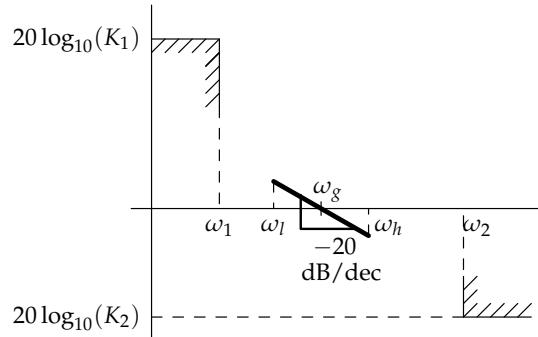

Figure 2: Parameters for loop-shaping for Problem 1.
1. [2 points] Determine K_1 and K_2 of Figure 2.
2. [1 points] Write the numerical values of ω_1 and ω_2 of Figure 2.
3. [1 points] What is the decade distance needed between the corner frequencies ω_l and ω_h for the desired Bode plot of Figure 2?